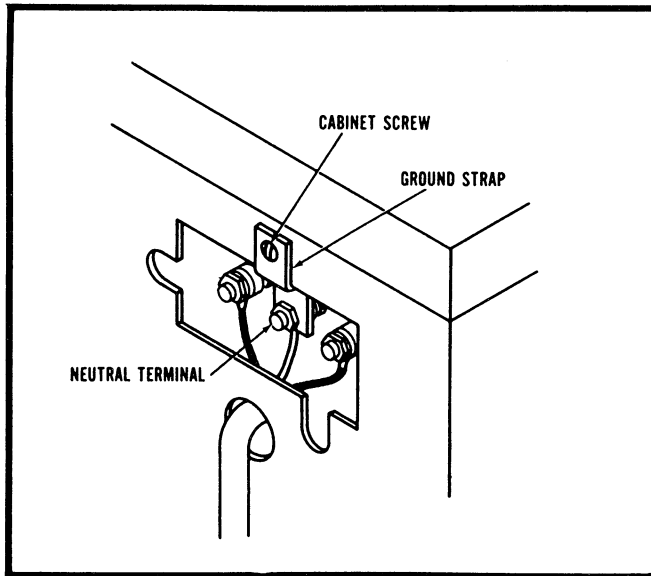

Figure 4
the ground strap (furnished with electric dryers only) to the silver colored (N) terminal on the terminal block. The opposite end of this ground strap is attached to the cabinet by using the screw immediately above the terminal block opening, *Figure 4*.